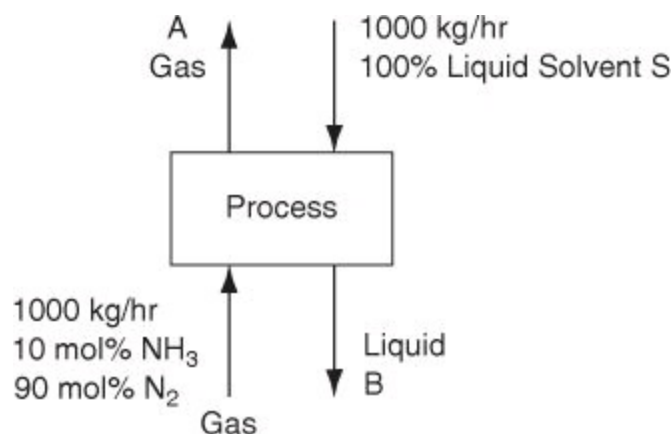

Figure P4.1.26
****4.1.26. Consider the following process for recovering NH_3 from a gas stream composed of N_2 and NH_3 (see Figure P4.1.26).
Given the data shown in Figure P4.1.26, calculate the flow rates and compositions of streams A and B.